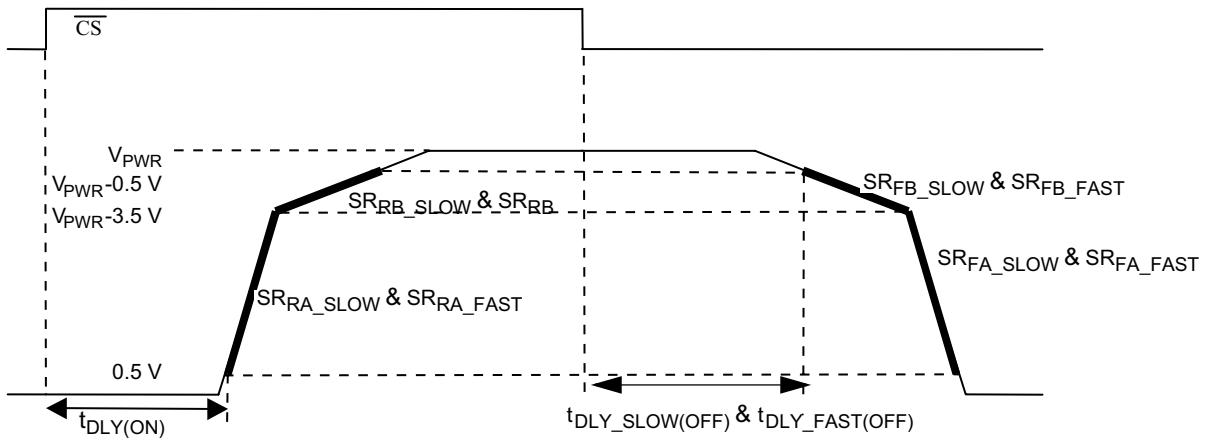

Figure 4. Output Slew Rate and Time Delays
- Rise and Fall Slew Rates A measured across a 5.0Ω resistive load at high side output = 0.5V to V_{PWR} -3.5V (see Figure 4, page 12). These parameters are guaranteed by process monitoring.
- Rise and Fall Slew Rates B measured across a 5.0Ω resistive load at high side output = 0.5V to V_{PWR} -3.5V (see Figure 4). These parameters are guaranteed by process monitoring.